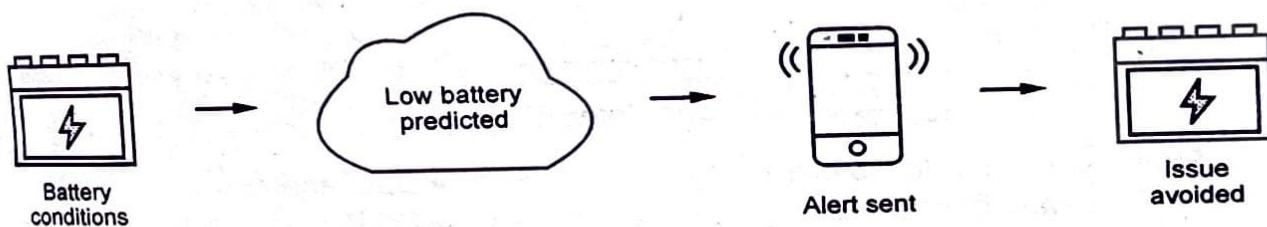

Fig. Q.11.1 Battery working
- Fig. Q.11.1 shows battery working.